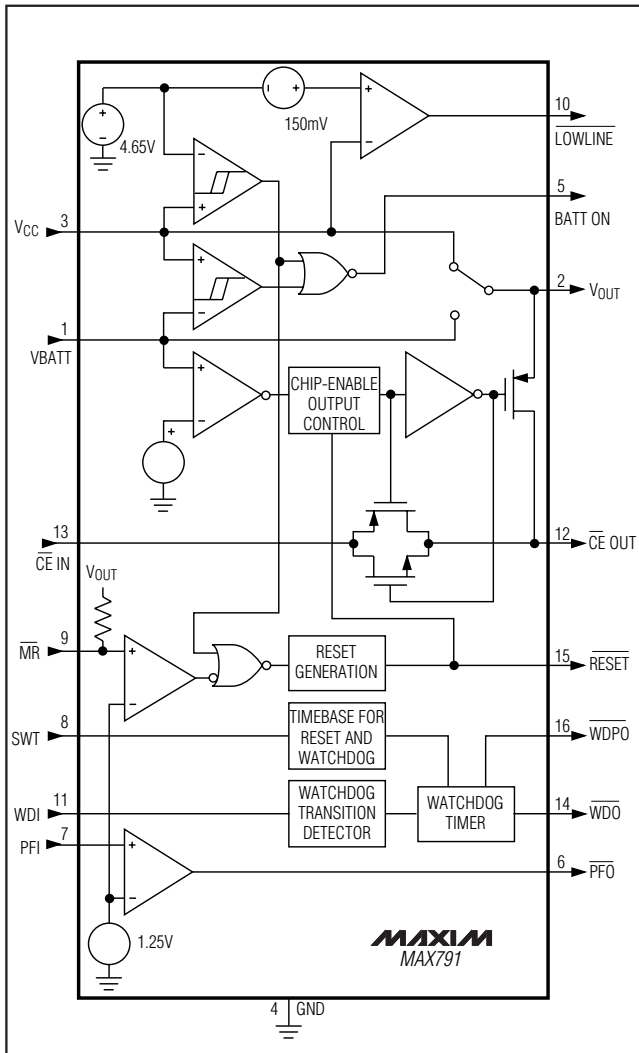

Figure 1. MAX791 Block Diagram
Many  $\mu$ P-based products require manual-reset capability, allowing the operator or test technician to initiate a reset. The Manual Reset Input (MR) can be connected directly to a switch, without an external pull-up resistor or debouncing network. It connects to a 1.25V comparator, and has a pull-up to  $V_{OUT}$  as shown in Figure 1. The propagation delay from asserting MR to RESET asserted is  $4\mu\text{s}$  typ. Pulsing MR low for a minimum of  $15\mu\text{s}$  resets all the internal counters, sets the Watchdog Output (WDO) and Watchdog-Pulse Output (WDPO)
The MAX791 provides internal gating of chip-enable (CE) signals to prevent erroneous data from corrupting the CMOS RAM in the event of a power failure. During normal operation, the CE gate is enabled and passes all CE transitions. When reset is asserted, this path becomes disabled, preventing erroneous data from corrupting the CMOS RAM. The MAX791 uses a series transmission gate from the Chip-Enable Input (CE IN) to CE OUT (Figure 1).